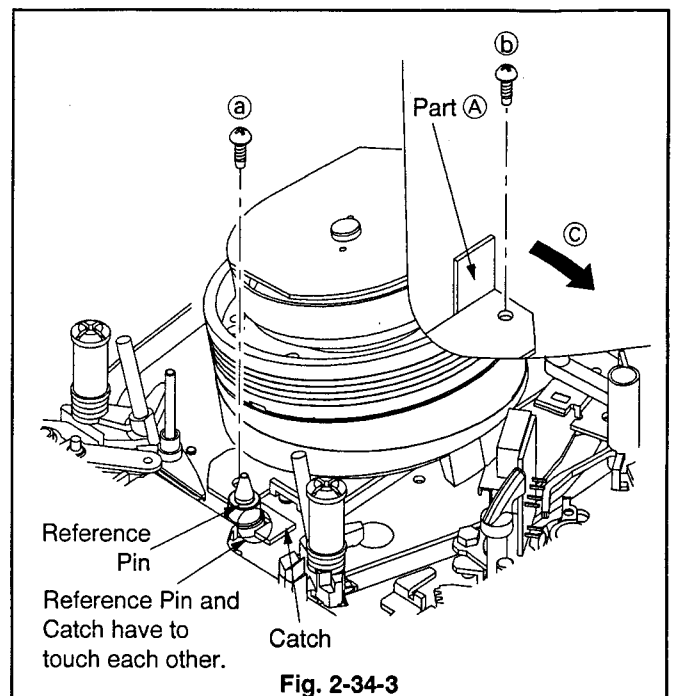

Fig. 2-34-3
2. Hook the Catch of the DRUM CLAMPER shown in the Fig. 2-34-3 to the Reference Pin.
3. Fasten the screw (b) while pushing the Part A in the direction shown by the arrow C (clockwise when viewed from the top) as shown in the Fig. 2-34-3.
4. Fasten the screw (a) shown in the Fig. 2-34-3.